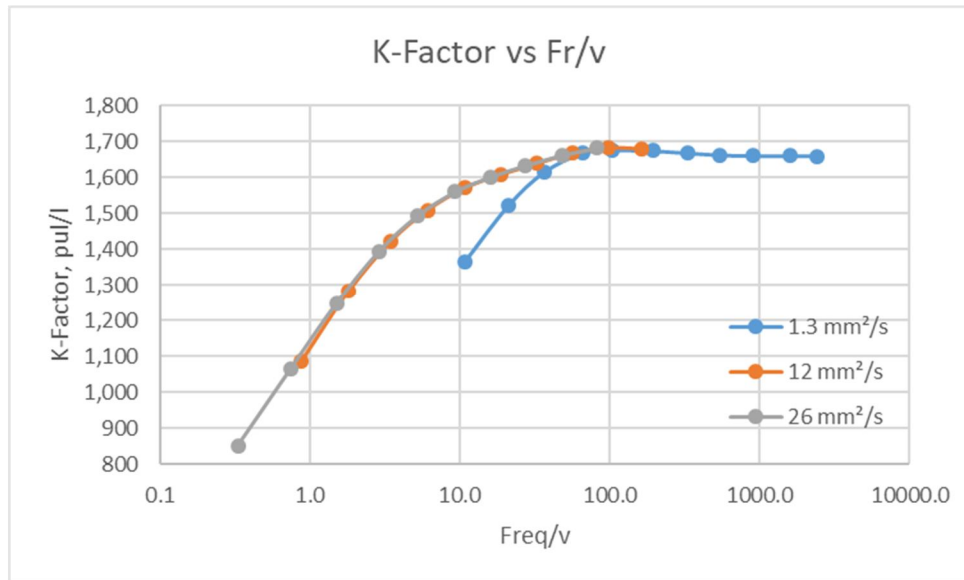

Figure2 UVC graph
A turbine flow meter's K-factor can be presented as a single, unique curve when plotted against Reynold's number, which is approximated by the ratio Frequency/Viscosity (Freq/v) as shown graphically below: [Figure2]:
- Determination of the current K-factor from the K-Factor vs Fr/v table (Fig. 2)